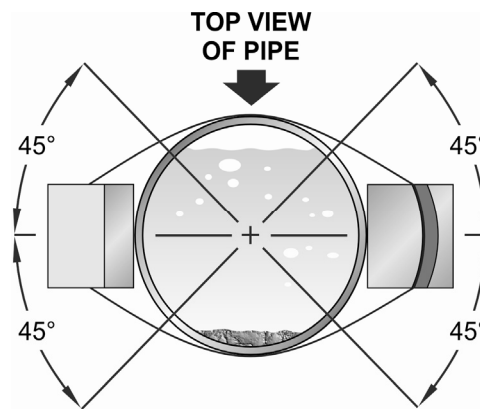

Figure 2.1 Horizontal pipe transducer mounting
The transducers need to be properly oriented on the pipe to provide optimum reliability and performance. On horizontal pipes, the transducers should be mounted 180 radial degrees from one another and at least 45 degrees from the top-dead-center and bottom-dead-center of the pipe. See **Figure 2.1**. Figure 2.1 does not apply to vertically oriented pipes.
3. Crease the paper at the fold line. Mark the crease. Place a mark on the pipe where one of the transducers will be located. See **Figure 2.1** for acceptable radial orientations. Wrap the template back around the pipe, placing the beginning of the paper and corner in the location of the mark. Move to the other side of the pipe and mark the